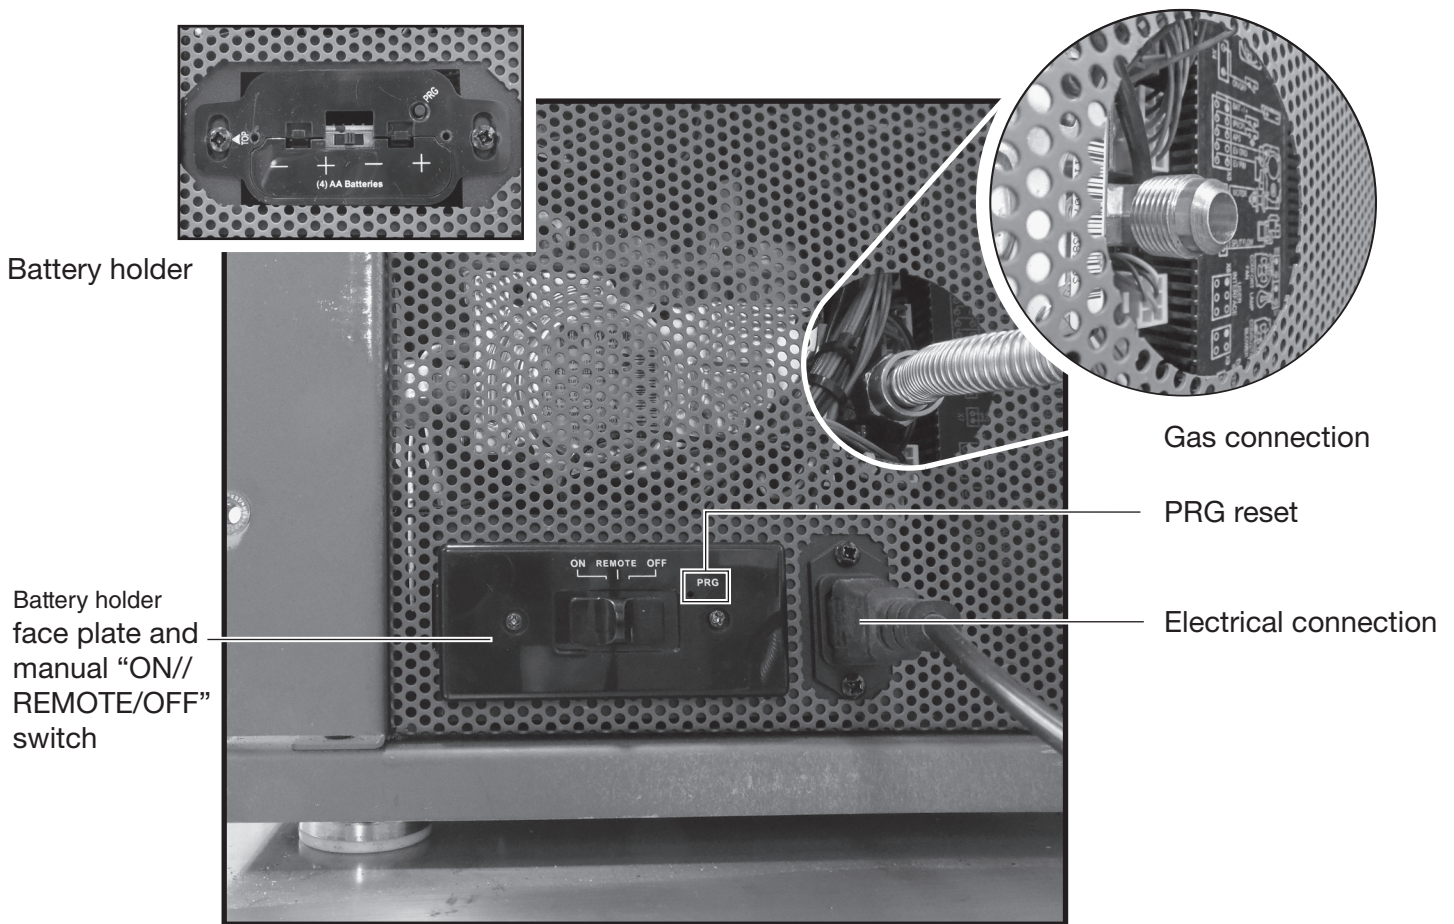

Figure 13: Gas and Electrical connection.
Connect the gas supply line to the 1/2" flare fitting at the rear of the unit as seen in (Figure 13). Please see the gas supply section of the manual for requirements of the gas supply.
Plug the provided IEC power cord into the receptacle at the rear of the unit as shown in (Figure 13). The battery holder and manual "ON/REMOTE/OFF" switch is also located here. See details of operation on page 19.
1. With the gas stove power plug unplugged and the main switch - located in the rear of the stove, turned to the OFF position, remove the switches' face plate and install 4 AA batteries into the battery holder (Figure 13). Once the batteries are installed and the switches' face plate reattached, turn the selection switch to "Remote" setting.